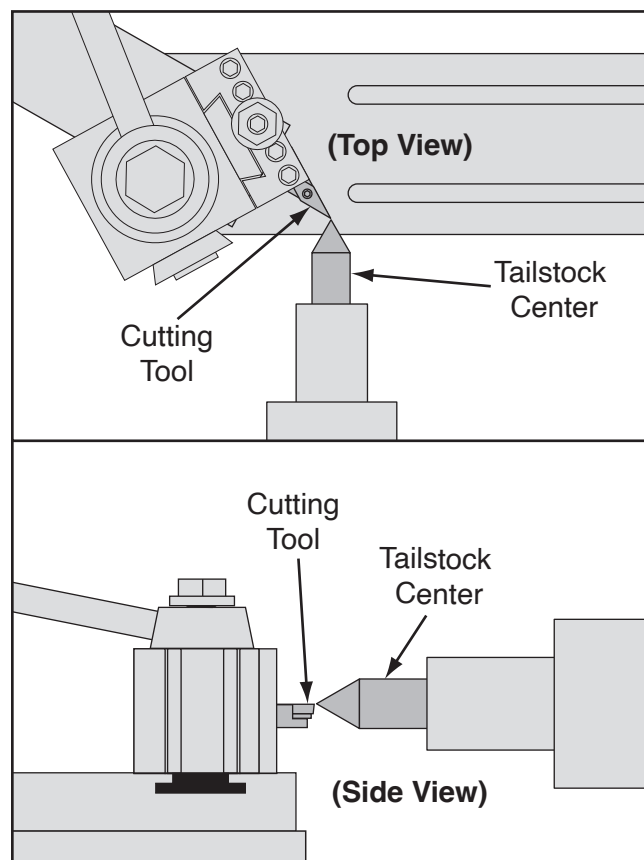

Figure 68. Cutting tool aligned to tailstock center.
5. Turn thumb wheel to adjust height of cutting tool tip to meet center tip, as shown in **Figure 68**, then tighten jam nut to secure.